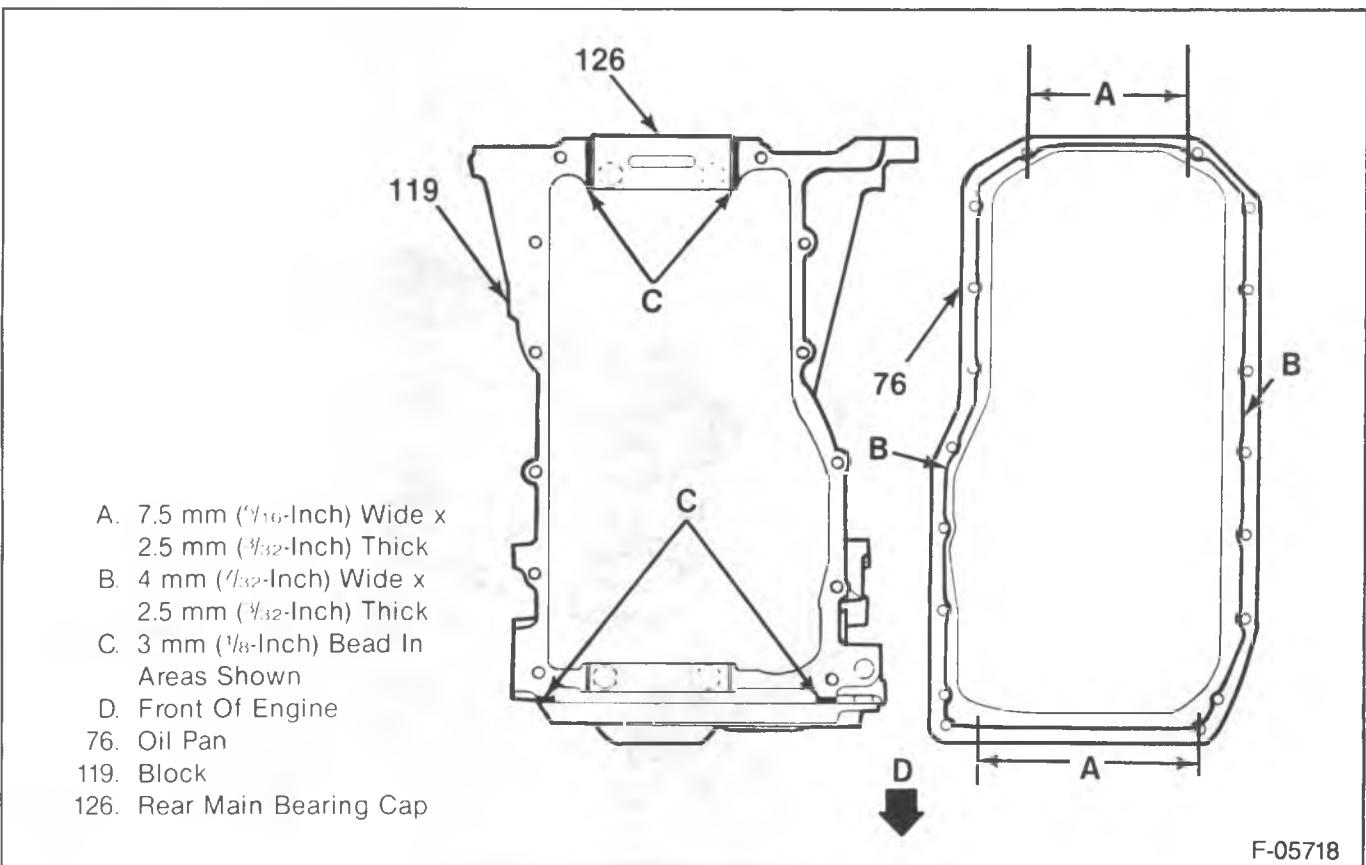

Figure 51—Applying RTV to the Oil Pan and Block
- Apply RTV sealant to the oil pan flange and block. Refer to figure 51.
1. Oil pan (76).
2. Bolts (75).